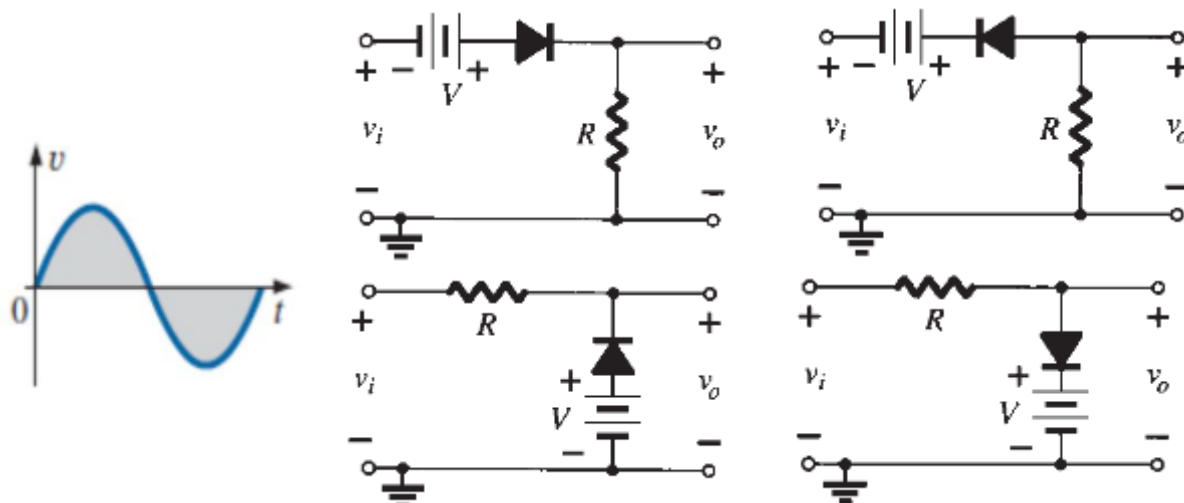

Figure 7: Clipper Circuit
Implement the circuits given in figure 7 and 8 using any simulation software (PSIM/MULTISIM/PSPICE). Also observe the input/output wave shapes.
1. Construct the circuits as shown in figure 7. Observe the input and output wave shapes simultaneously on the oscilloscope in dual mode and sketch the waveforms.